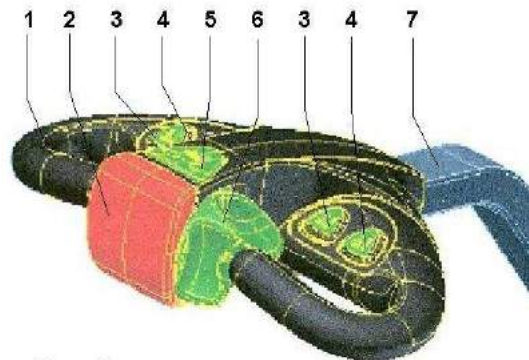

Fig. 2
- check the jam safety on the steering handle by pressing the safety switch (2, fig. 2), the Multi-Mover XXL should not start in that case.
Steering handle (Tiller head) (fig. 2)